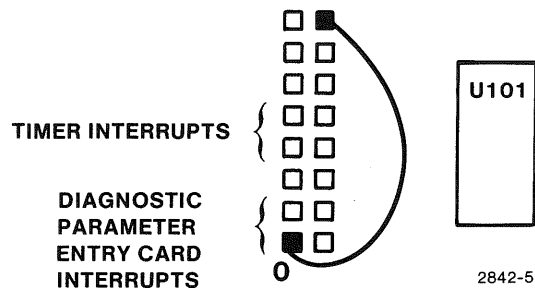

Figure 2-3. Parameter Entry Device Interrupt Strap.
6. Lift the Pen Drive Assembly (refer to Appendix C in Volume 2 of the 4663 Service manual for procedure) and remove the Processor Card from the card cage. Note and record the position of the Timer Interrupt strap on the card. Now, set the Parameter Entry strap to position 0 (see Figure 2-3).